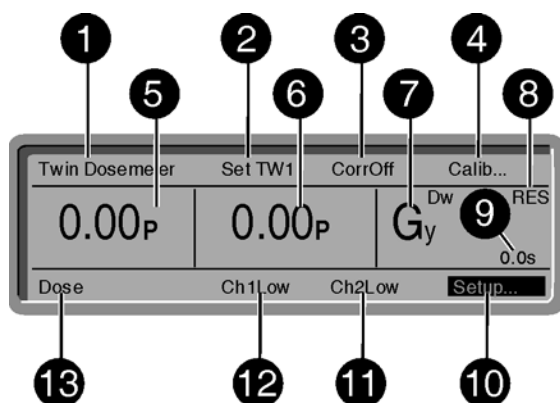
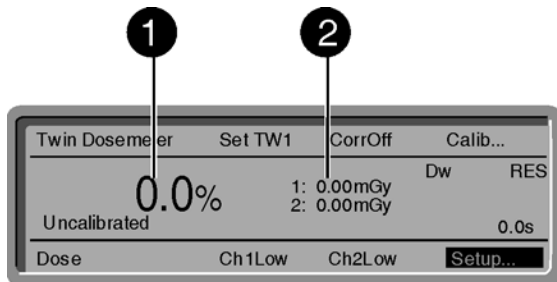

Figure 6-3: Measuring screen for Dual Channel Dosimetry (dose measurement, absolute values)
Figure 6-4: Measuring screen for Dual Channel Dosimetry (dose measurement, relative values)
MULTIDOS will briefly show the start-up screen and then the measuring screen (Figure 6-3). After power up and during operation MULTIDOS runs automatic self-tests.
The measuring screen Figure 6-3 presents information and controls. Menus for changing the settings are callable via the control.
- 7 Display unit of measurement, If the measuring device is not calibrated for the selected unit of measurement, the message "uncalibrated" flashes below the measuring value of channel 1 (5, Figure 6-3). When set up for radiological units, the measuring quantity to which the two calibration factors of the selected set apply (D_w = absorbed dose to water, K_a = air kerma) is displayed. Refer to section 3.3
The measuring values of channels 1 and 2 (**5** and **6**, Figure 6-3); the system can display the absolute values or the ratio obtained by dividing the value of channel 2 by the value of channel 1 (given in %) (**1**, Figure 6-4).
- Using the cursor keys, position the cursor on "Set TWx" (2, Figure 6-3) and confirm the selection with ENT.
- Position the cursor on "Calib..." (4, Figure 6-3) and press ENT.